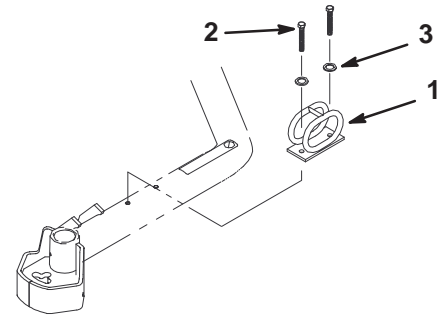

Figure 2
3. Using mounting holes from old hose guides, mount a new hose guide to each lift arm with (2) screws and washers (Fig. 2).